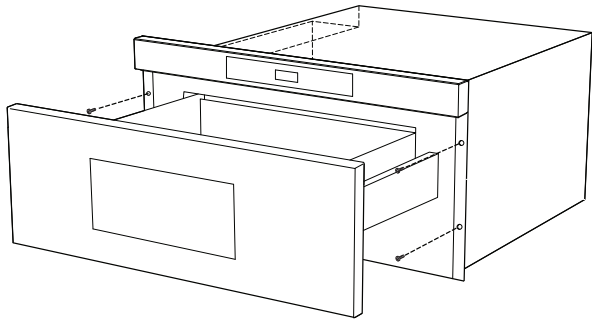

Figure 9A
4. Open the drawer. Using the 4 holes on the drawer as a template, predrill the cabinet using a $\frac{1}{16}$ " drill bit. See **Figure 9A**.